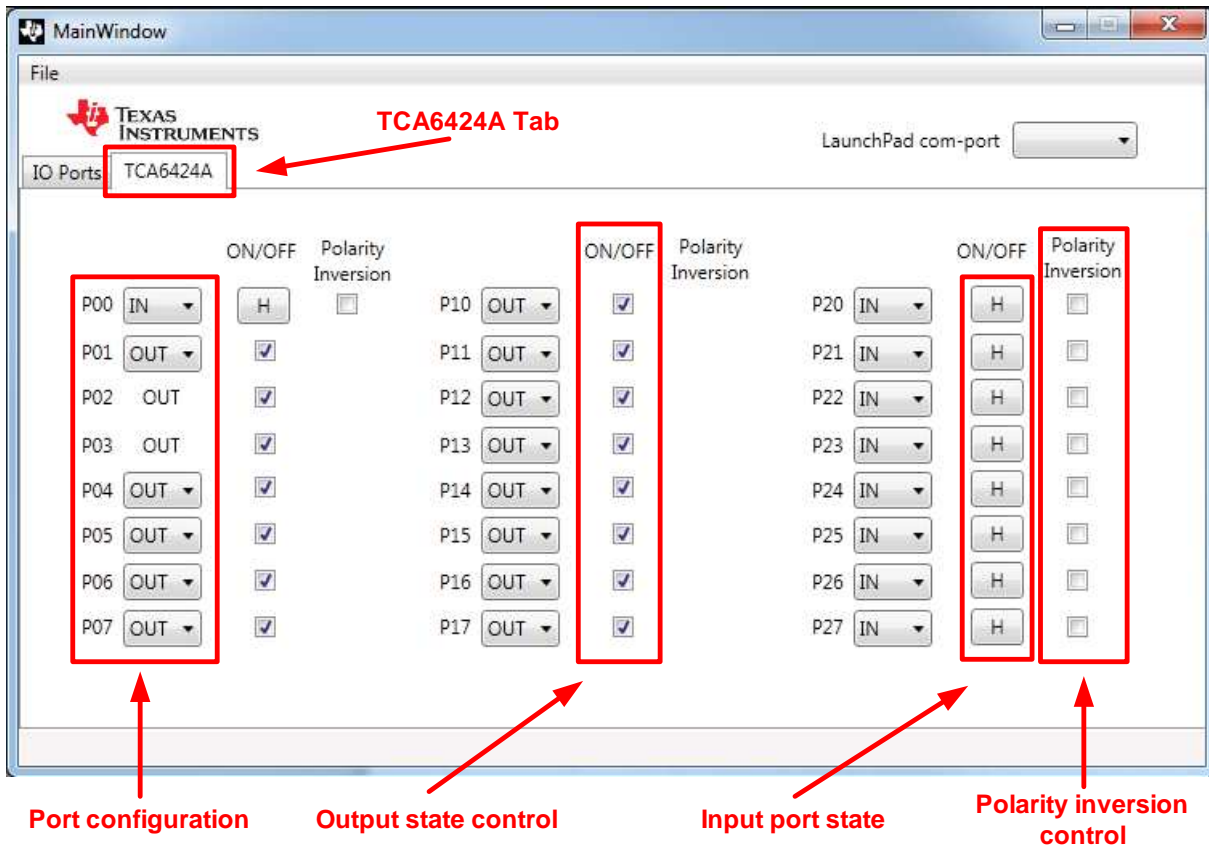

Figure 2. TCA6424A Tab (24-bit IO Expander) on GUI
1. The TCA6424A tab controls the TCA6424A device permanently installed on the IO Expander EVM. Figure 2 shows the TCA6424A tab on the GUI.